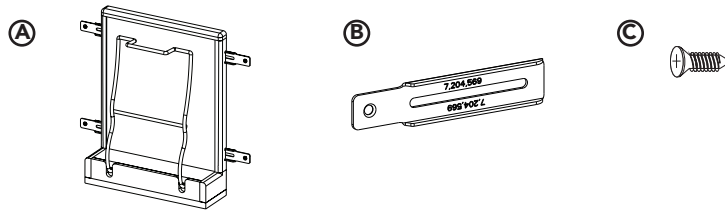

FIGURE 1
Attach adjustable mounting brackets to the back of the frame using (4) #6 x 1/2" flat head screws (See Figure 1).